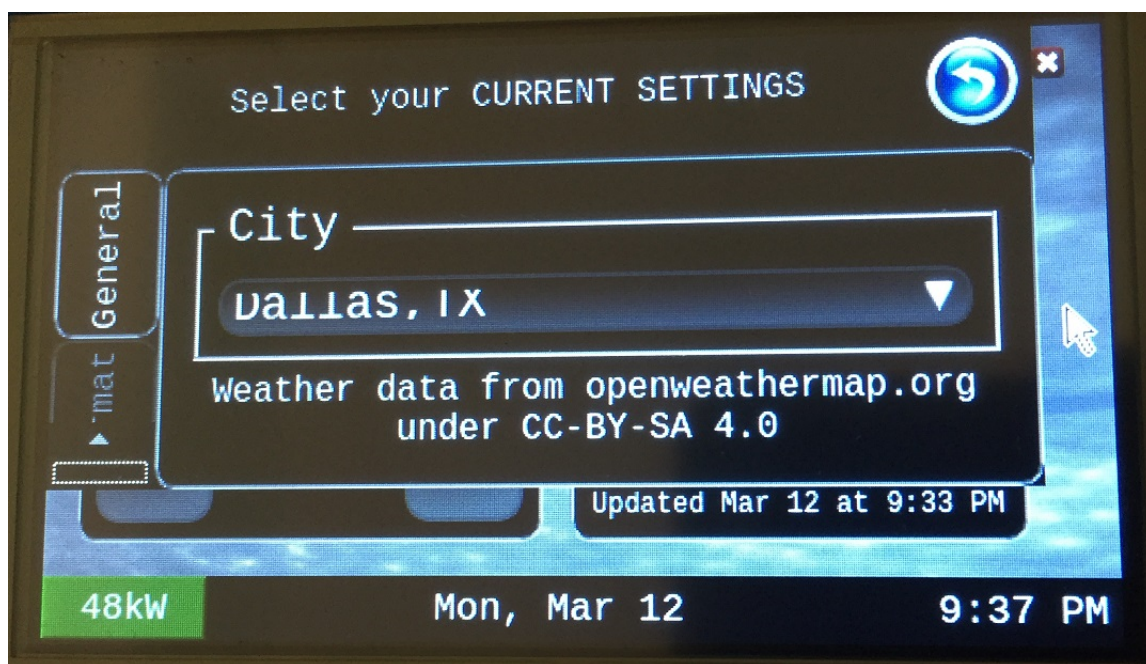
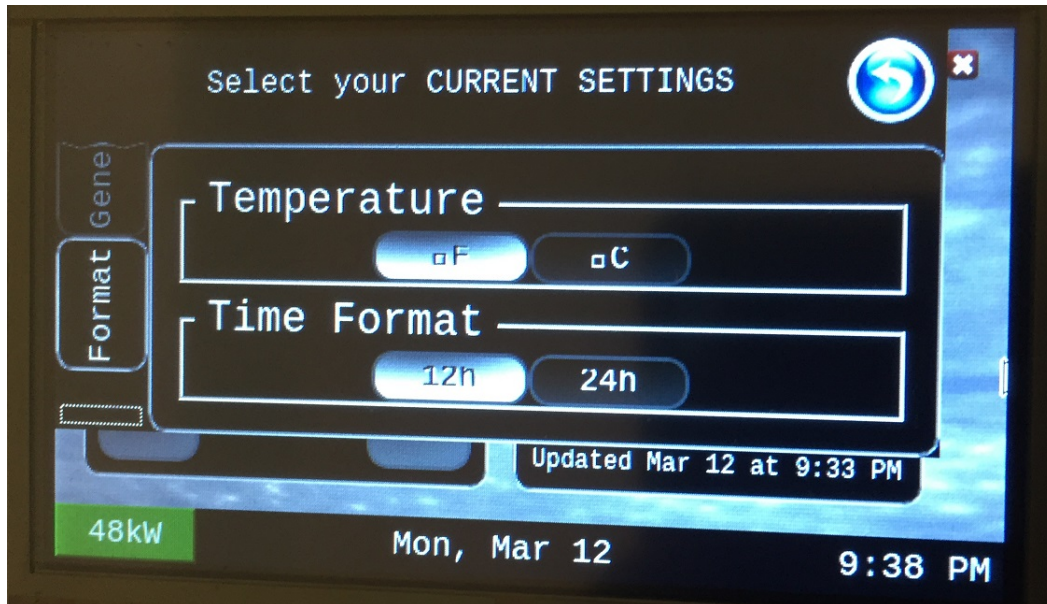
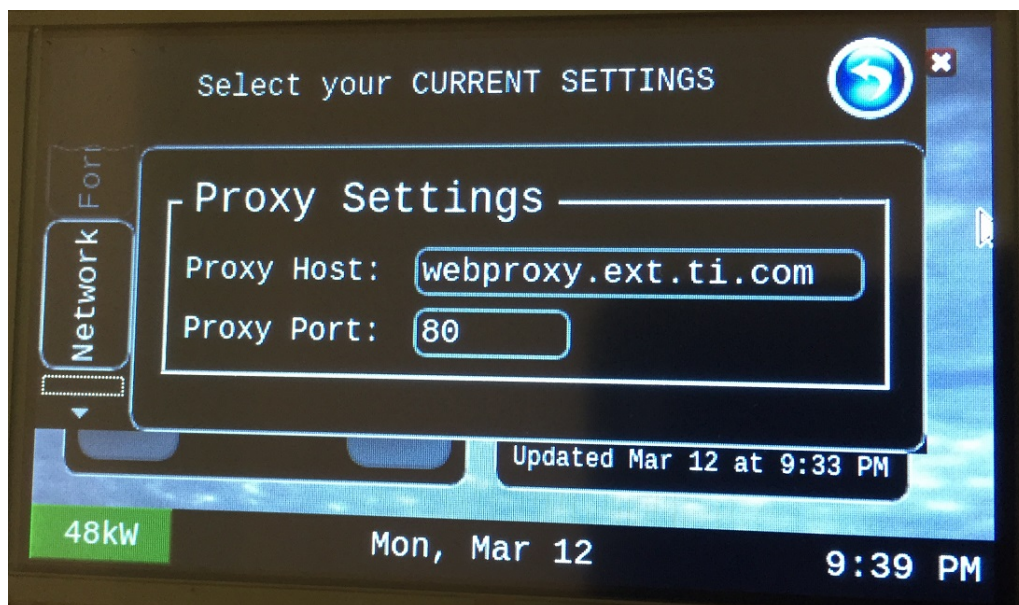

Figure 12. Smart Thermostat Demo GUI: City Select Screen
Figure 13. Smart Thermostat Demo GUI: Temperature and Time Format Setting Screen
Figure 14. Smart Thermostat Demo GUI: Network Proxy Setting Screen
7. The *Click to Settings* icon in Figure 9 leads to the city select screen shown in Figure 12.
8. The Format option in Figure 12 leads to the temperature and time format select screen shown in Figure 13.
9. The Network option in Figure 12 leads to the proxy settings screen shown in Figure 14.